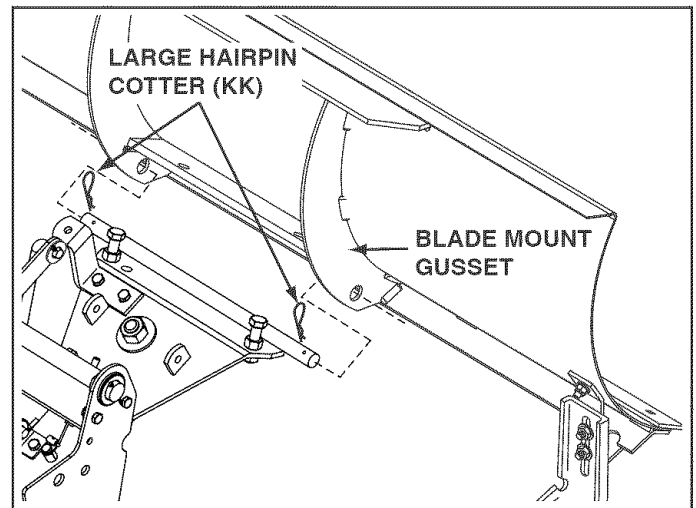

FIGURE 19
STEP 18: (SEE FIGURE 19)
- Align the channel pivot plate assembly behind the blade and guide the ends of the mounting rod, one end at a time, into the holes at the bottom of the blade mount gussets. Secure the mounting rod with two large hairpin cotter pins (KK).